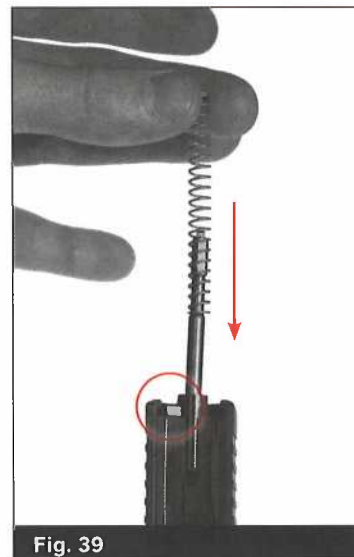

Fig. 39
- Use the slide to assist you in reassembling the firing pin assembly. Install the firing pin assembly upside down into the firing pin channel cut and turn the lug to one side. This will secure the assembly and assist you in replacing the spring cups and firing pin spring. (Fig. 39)